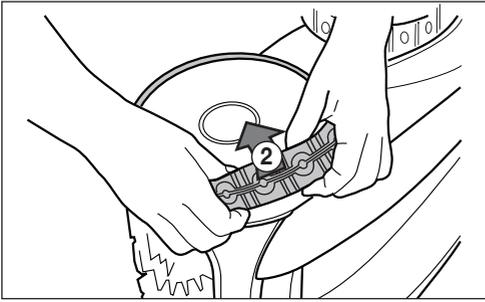

Figure 24. Remove the Old Tyre
2. Remove the old tyre. See Figure 24,